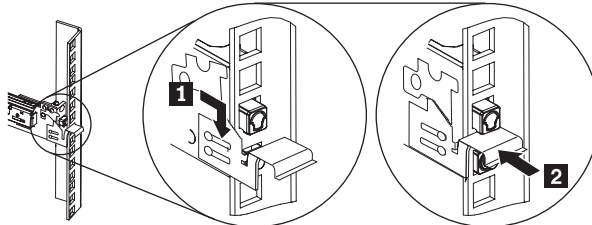

Figure 54. Installing the front of a SAN Volume Controller 2145-CF8 slide rail in the front of the rack
- a. Pull the slide rail forward and insert the metal of the rack between the front latch and the pins, as shown by **1** in Figure 54.